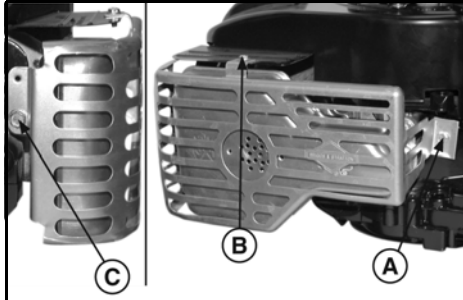

Figure 22
10. Place muffler guard over muffler and start screws (A, B, C, Figure 22). Torque to values listed in Section 12 - Engine Specifications.